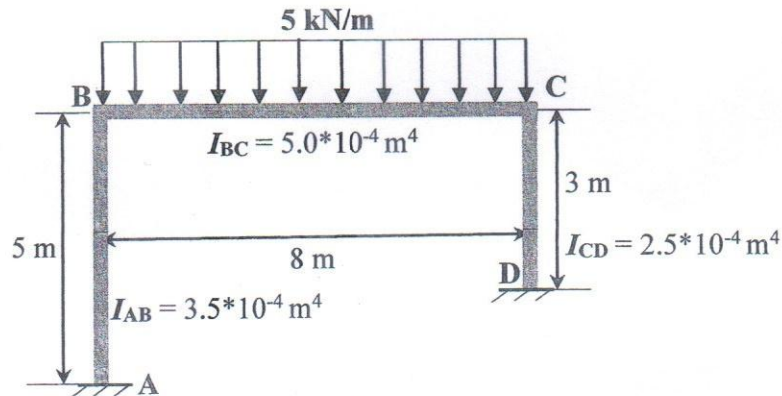

Fig.2
- 2 Determine the moments acting at the ends of each member of the frame shown in (25) Fig.2 using moment distribution method. Supports A and D are fixed. The moment of inertia of each member is indicated in the figure.  $E$  is 200 GPa for all members.